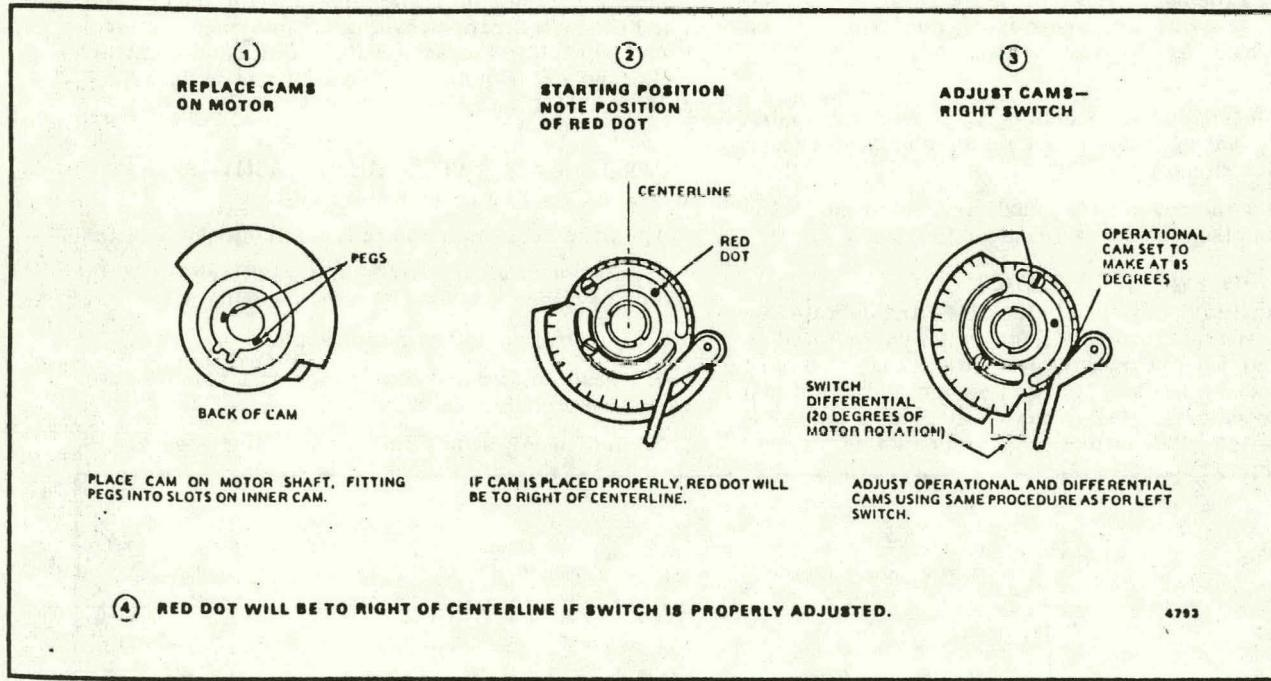

FIG. 10—ADJUSTING RIGHT SWITCH MAKE AND BREAK POINTS.
6. Put right switch cams on motor shaft and adjust right switch. See Fig. 10.